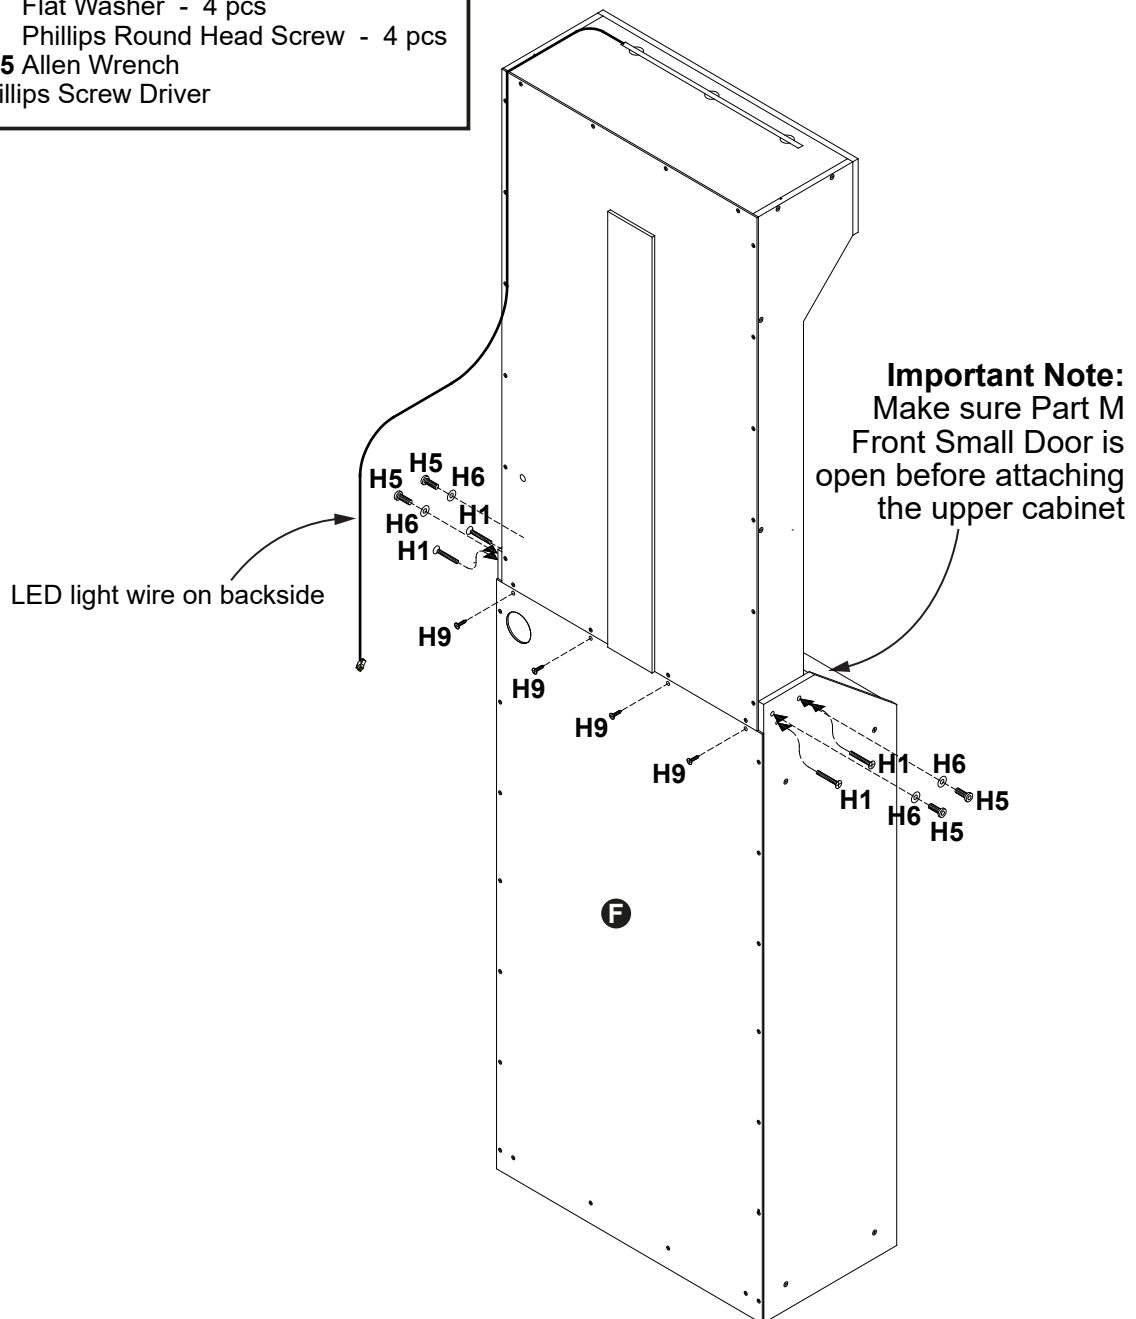

Figure 13
- See **Figure 13** for all these steps.